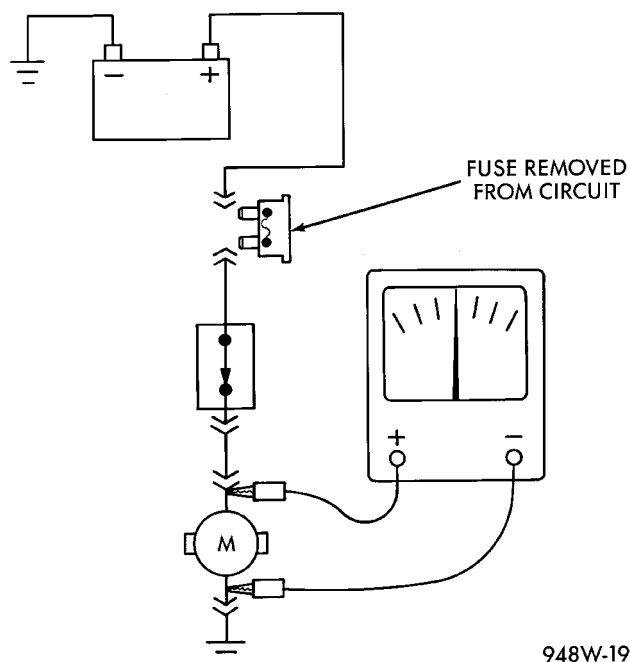

Fig. 11 Testing for Continuity
(1) Remove the fuse for the circuit being checked or, disconnect the battery.
(2) Connect one lead of the ohmmeter to one side of the circuit being tested (Fig. 11).